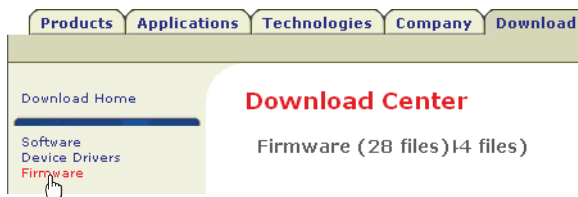

Figure 5-9 — Location of firmware upgrade files
1. Visit the Extron web site, www.extron.com, click the Download Center tab, and then click the Firmware link (figure 5-9). Select the appropriate firmware file to download and copy it to your computer. Note the folder to which you save the firmware file.